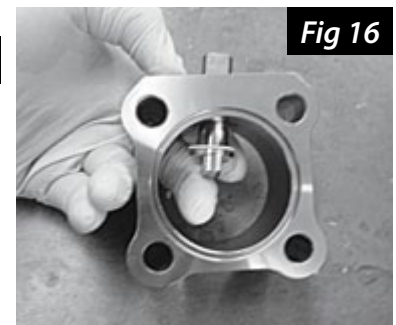

Fig 16
11. Push the valve stem back in to completely remove it from the valve body. Slide the Teflon® spacer off and discard it (Fig 16).